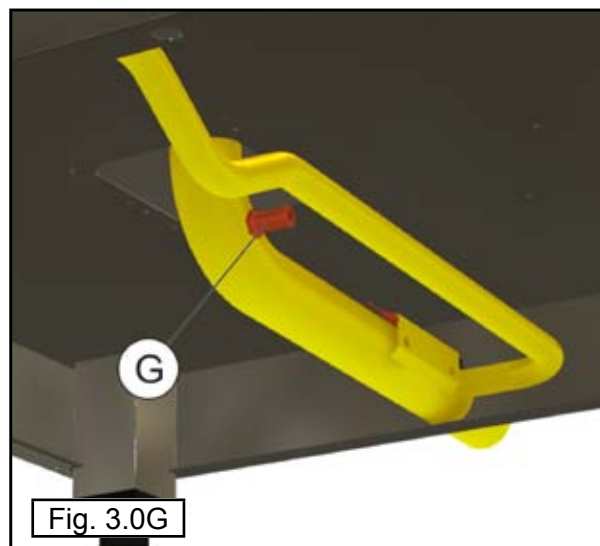

Fig. 3.0G
| Condensation flow rate regulator Optional - Fig. 3.0G | Ø 0.7 mm | Ø 0.7 mm | Ø 0.7 mm | Ø 0.7 mm |
| Condensation flow rate regulator Fig. 3.0G | Ø 0.7 mm | Ø 0.7 mm | Ø 0.7 mm | Ø 0.7 mm |
The solenoid valve, via the injector (G), lets cold water into the drainpipe to condense the steam when a temperature of 90°C is reached (Fig. 3.0G).